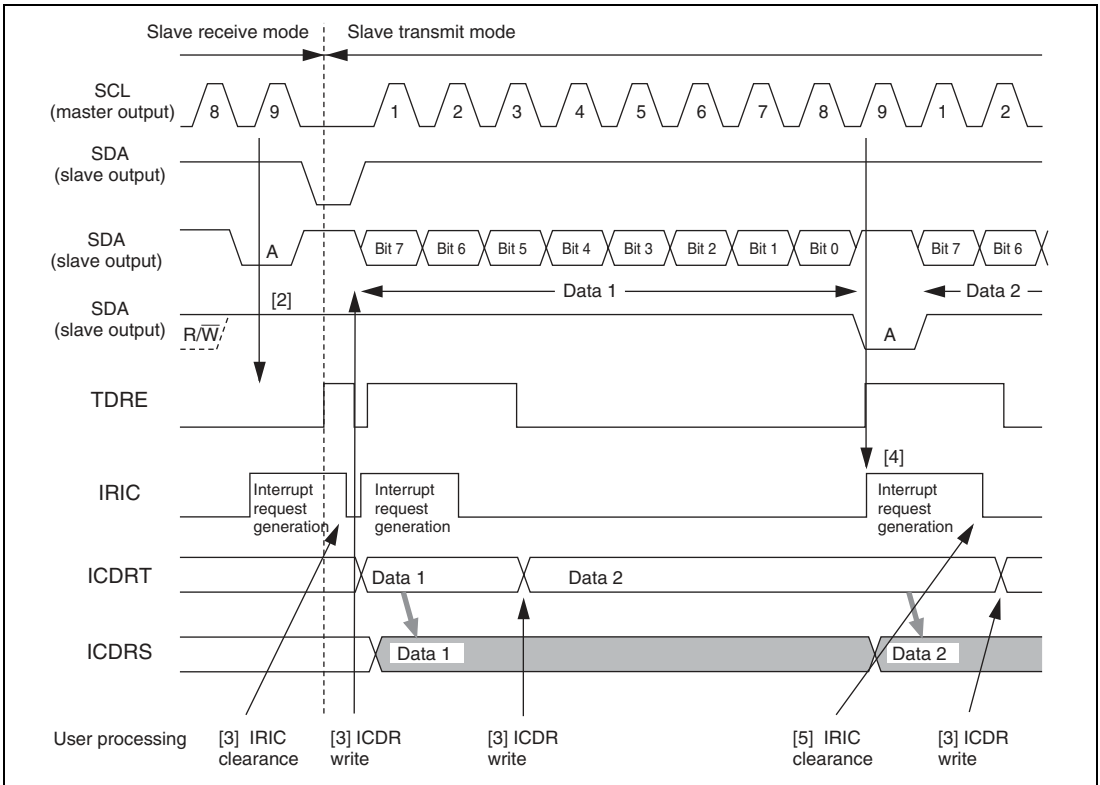

Figure 18.18 Example of Slave Transmit Mode Operation Timing (MLS = 0)
- (1) Set the ICE bit in ICCR to 1. Set the MLS bit in ICMR and the MST and TRS bits in ICCR according to the operating mode.
- (2) When the slave address matches in the first frame following detection of the start condition, the slave device drives SDA low at the 9th clock pulse and returns an acknowledge signal. At the same time, the IRIC flag in ICCR is set to 1. If the IEIC bit in ICCR has been set to 1, an interrupt request is sent to the CPU. If the 8th data bit (R/\overline{W}) is 1, the TRS bit in ICCR is set to 1, and the mode changes to slave transmit mode automatically. The TDRF flag is set to 1. The slave device drives SCL low from the fall of the transmit clock until ICDR data is written.
- (3) After clearing the IRIC flag to 0, write data to ICDR. The TDRE internal flag is cleared to 0. The written data is transferred to ICDRS, and the TDRE internal flag and the IRIC and IRTR flags are set to 1 again. After clearing the IRIC flag to 0, write the next data to ICDR. The slave device sequentially sends the data written into ICDR in accordance with the clock output by the master device at the timing shown in figure 18.18.
- (4) When one frame of data has been transmitted, the IRIC flag in ICCR is set to 1 at the rise of the 9th transmit clock pulse. If the TDRE internal flag has been set to 1, this slave device drives SCL low from the fall of the transmit clock until data is written to ICDR. The master device drives SDA low at the 9th clock pulse, and returns an acknowledge signal. As this acknowledge signal is stored in the ACKB bit in ICSR, this bit can be used to determine whether the transfer operation was performed normally. When the TDRE internal flag is 0, the data written into ICDR is transferred to ICDRS, transmission is started, and the TDRE internal flag and the IRIC and IRTR flags are set to 1 again.
- (5) To continue transmission, clear the IRIC flag to 0, then write the next data to be transmitted into ICDR. The TDRE flag is cleared to 0.